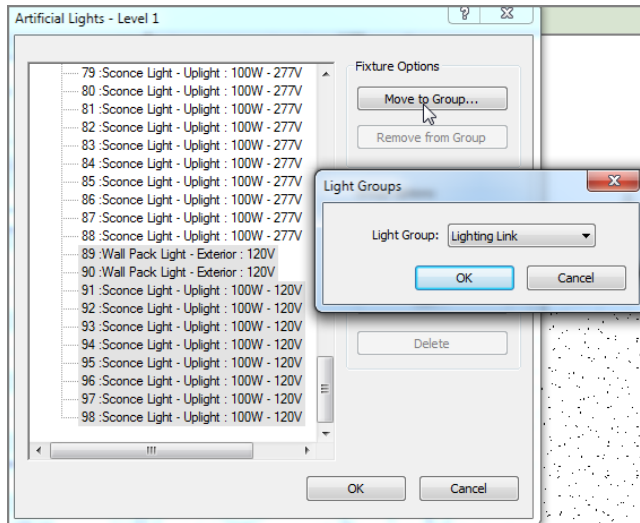

FIGURE 19.14: Creating a new group and adding the proper lights
4. Call the new group **Lighting Link**, as shown in Figure 19.14.
5. Scroll down to the bottom of the list, and locate the lights Sconce Light - Uplight : 100W - 120V. Select all of them (see Figure 19.14). Also find the wall packs and add them to the group.